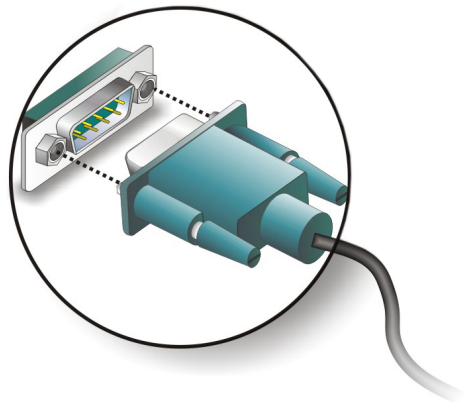

Figure 5-27: VGA Connector
- Step 3:** Insert the VGA connector. Once the connectors are properly aligned with the insert the male connector from the VGA screen into the female connector on the 3308440. See Figure 5-27.